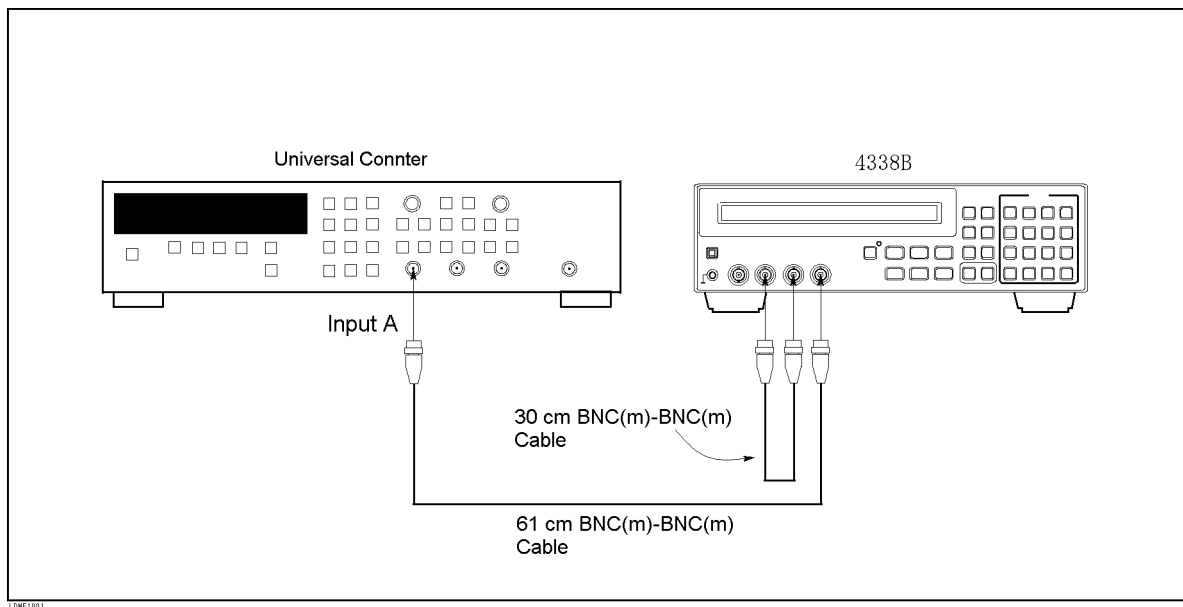

Figure 9-1. Test Signal Frequency Accuracy Test Setup
- Set up the equipment as shown in Figure 9-1.